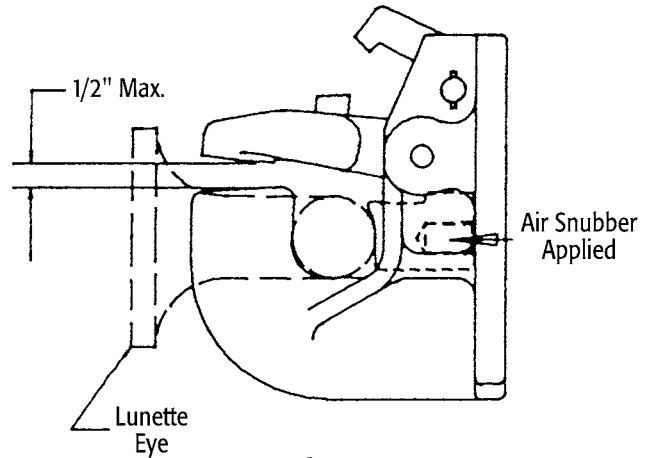

Fig. 2
1. Place a properly matched lunette eye on the hook, lower the Jaw (4) and apply operating pressure to the air chamber.
2. With the Lock disengaged, as shown in Fig. 2 on page 2, lift the Jaw (4) until it stops. The secondary interlock feature must prevent the Jaw from opening more than 1/2" above the horn.